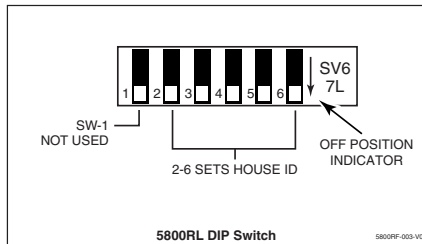

Figure 4. DIP Switch Settings
Refer to RELAY and LED Operation section and DIP Switch (Figure 4) in order to set up the 5800RL as follows:
5. Set DIP switches 3-6 (Figure 4) to the appropriate House ID (1-31). Make sure the House ID set by the DIP switches matches that entered in the LYNX control.
6. If module supervision and/or tamper protection is desired, program the 5800RL's tamper/supervisory loop (1) as a zone and enroll its serial number.